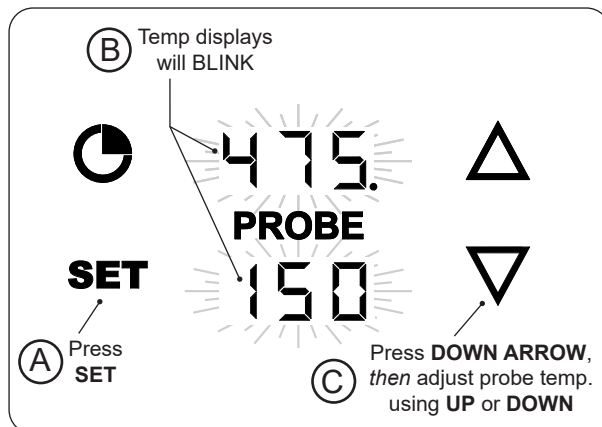

Fig. 36-2 Set probe temperature
1. With the thermometer/thermostat **on** and the meat probe plugged in, press the **SET** button once. The grilling and probe displays will blink. (While blinking, either area can be selected to enter their settings.) See Fig. 36-2, A and B.
2. Press the **DOWN ARROW** to select the probe settings, then you may use the up or down arrows to set the desired temp (Fig. 36-2, C).